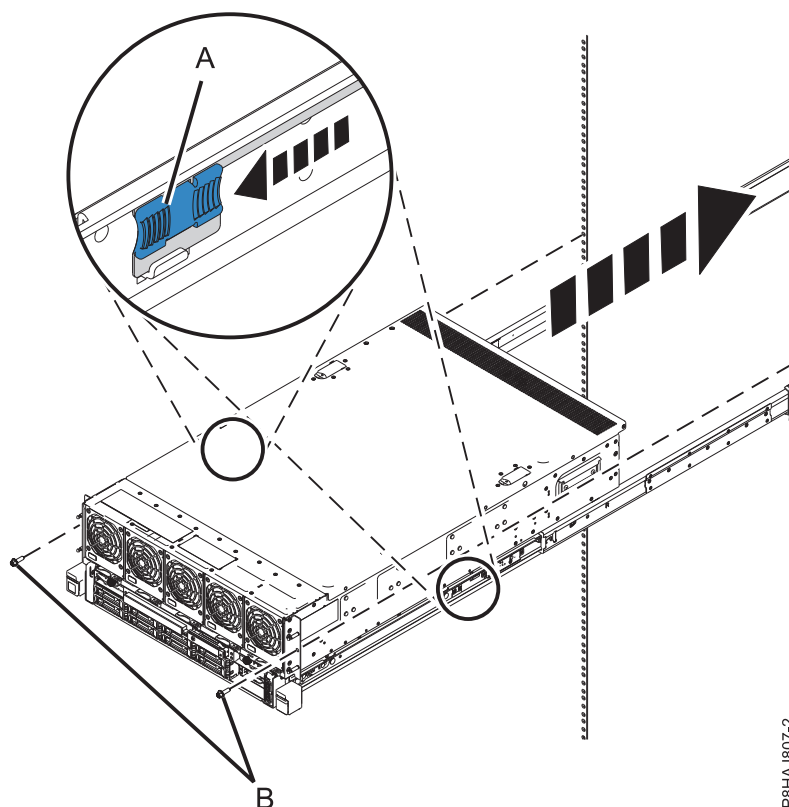

Figure 12. Releasing the latches in the middle of the rails and pushing the system all the way into the rack
7. Release the latches in the middle of the rails and push the system all the way into the rack, as shown in Figure 12 on page 12.